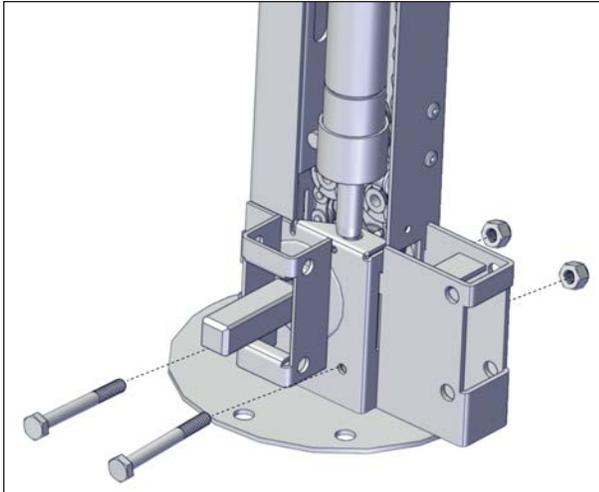

FIGURE 18: SCREW INSTALLATION
5. Install two 1/4" x 2 1/4" hexagonal head screws and nylon-insert lock nuts. Use the appropriate socket wrench spanner to fasten the foot in place, see Figure 18.
Make sure you respect the orientation of the fasteners, as shown in Figure 18.